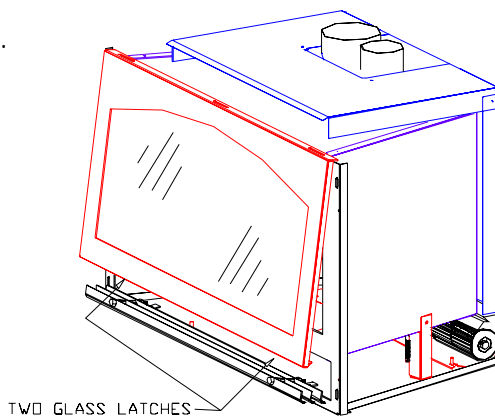

Figure J-1
3. REPLACE THE GLASS FRAME ASSEMBLY. Refer also to Figure J-1.